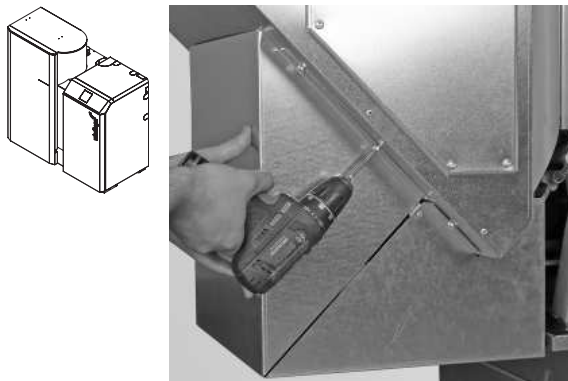

Fig. 47 Loosen the 3 screws on each side and take off cover.
- ▶ Remove cover from integral fuel hopper by **just loosening** the 3 screws on each side and then taking out and removing the cover – Fig. 47.